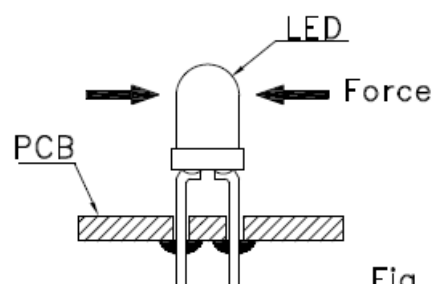

Fig. 9
6. After soldering or other high-temperature assembly, allow the LED to cool down to 50 °C before applying force (Fig.9).In general, avoid placing excess force on the LED to avoid damage. For any questions please consult with LIGHT representative for proper handling procedures.